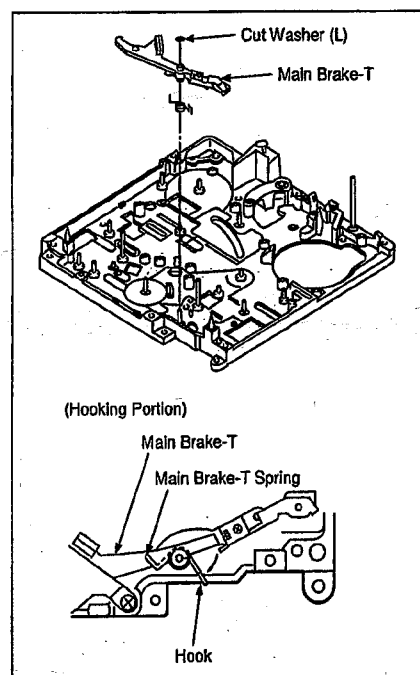

Fig. M19
- Fig. M19 Remove the Cut Washer (L) and Main Brake T Unit.